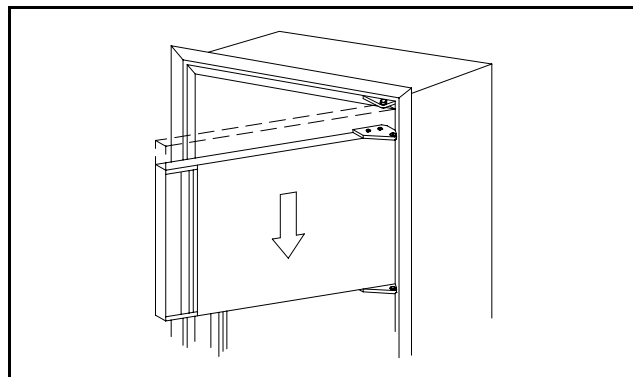

Figure 10
5. Remove the upper door by opening slightly and pulling the bottom of the door away from the refrigerator. Allow room to slide door down off the upper hinge pin shoulder (see Figure 10).